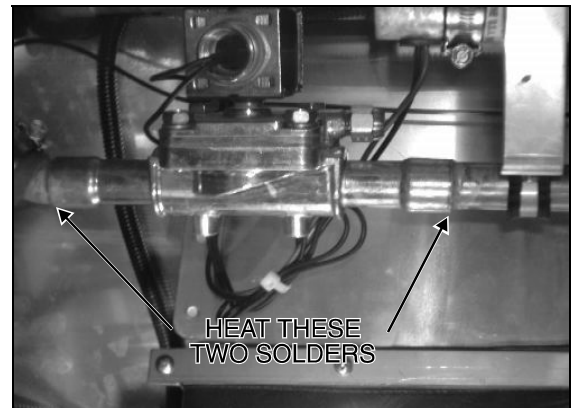

Figure 3
6. Heat the solders with a blowtorch, and, when solders are molten, remove pipe from valve body (refer to figure 3 for identification of solders).